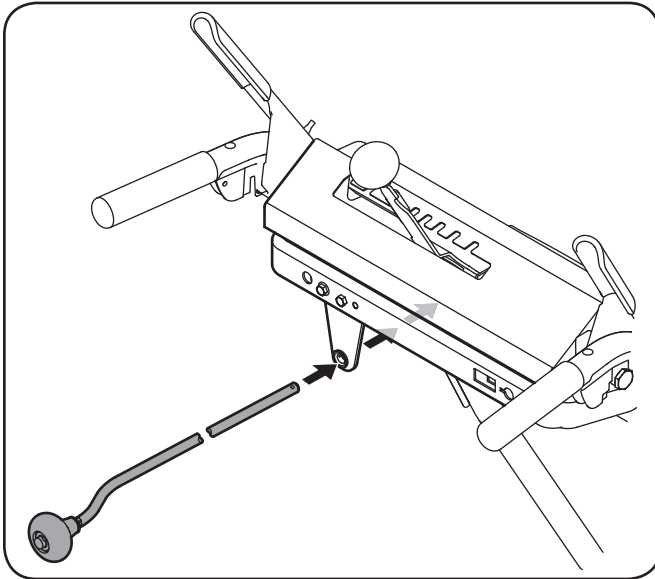

Figure 3-15
4. Insert the chute directional control rod into the support bracket on the rear of the dash panel. See Figure 3-15.